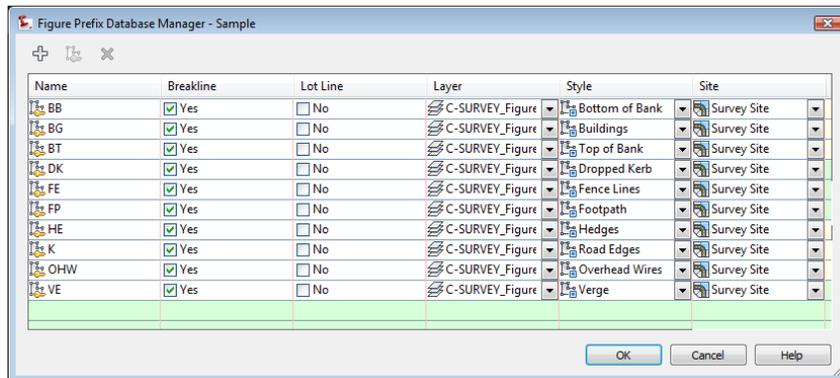

Figure 3: Specify how imported line work is drawn
- Use the Figure Prefix Database Manager, as shown in figure 3, to create a figure prefix library and figure styles with which to receive the linework codes and draw the linework in a suitable style.